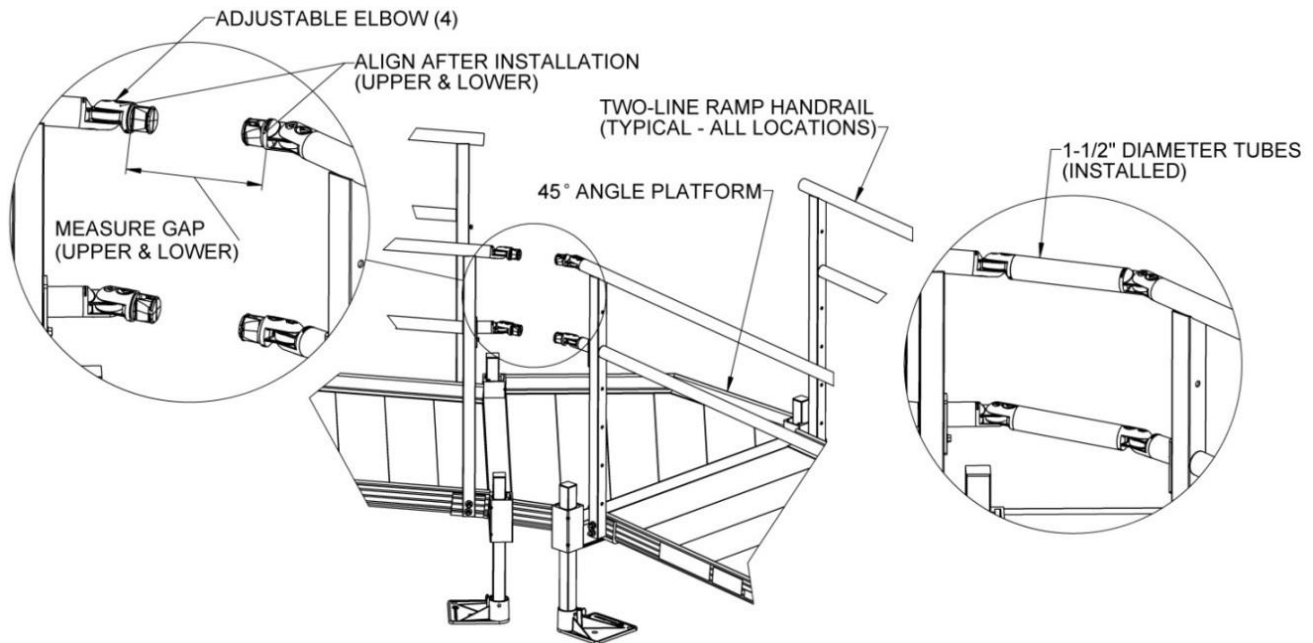

FIG. 4.17
- 4.9.4. Insert adjustable elbows into both the ramp handrails and the Bolt-On Stub Rails (FIG. 4.17).
- 4.9.5. Loosen the elbow assembly screws and position the adjustable elbows so they are aligned with the adjustable elbows on the opposite side (but do not tighten), then measure the distance between the two larger round faces. Measure both upper and lower gaps because they could be different and cut tubes accordingly (FIG 4.17).